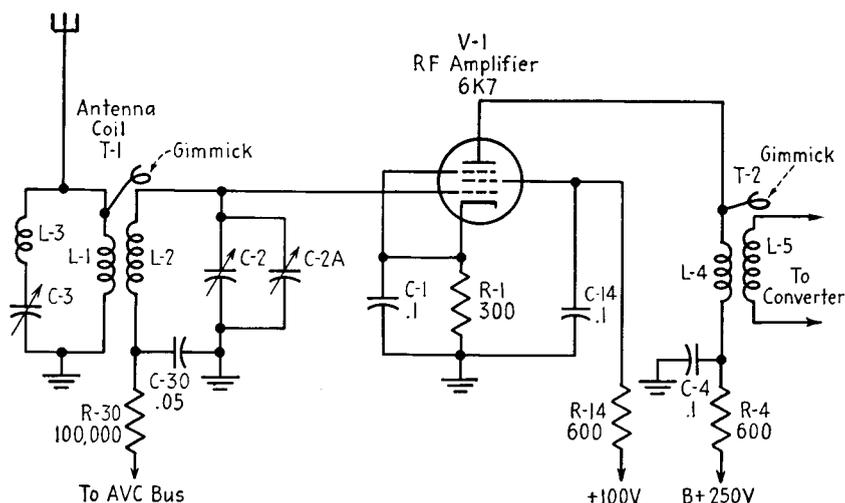

FIG. 16-2. Schematic diagram of a typical RF stage.
**Standard circuit.** The standard circuit is shown in Fig. 16-2.
A wave trap located in the antenna circuit of the receiver will minimize this effect. In the standard circuit of Fig. 16-2 a series-resonant wave trap, composed of  $L-3$  and  $C-3$ , is shunted across the primary of the antenna coil. The trap circuit is tuned to the intermediate frequency of the receiver, and offers a low-impedance path to ground for signals of that frequency present in the antenna.